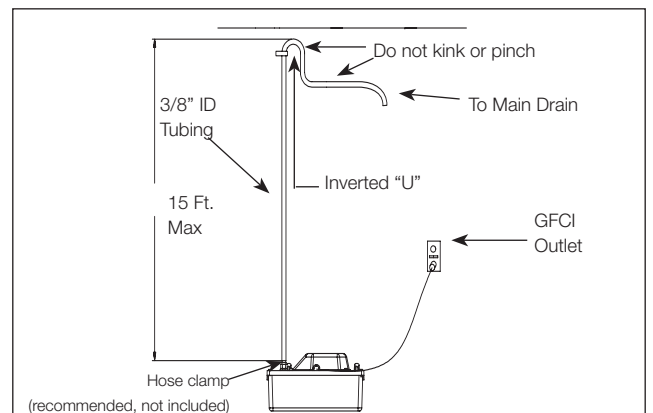

Figure 4 - Installation of discharge line
- A. Extend discharge pipe from barbed check valve to the highest point possible. Refer to Figure 4.
NOTE: Construct an inverted "U" (see Figure 4) at the highest point of discharge line if a continuous downward slope is not possible. Exercise care not to kink or "pinch off" the flow of condensate liquid.